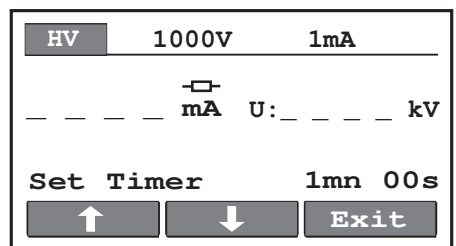

Fig.7. Timer value selection menu
- Duration of the test (fig. 7)